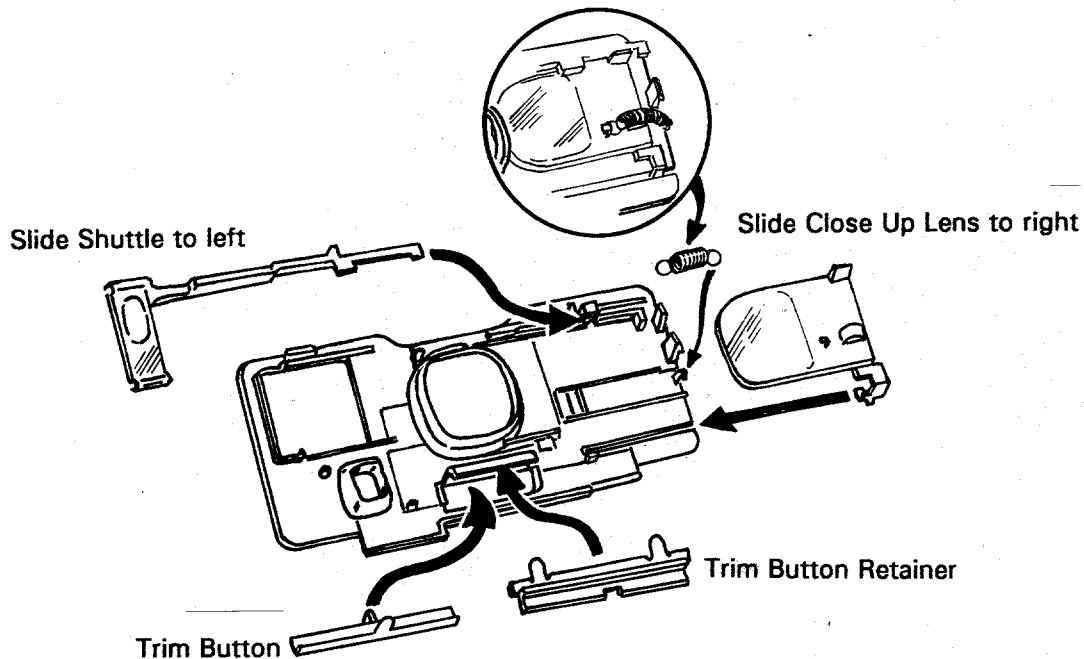

Fig. 10 Disassembling Close Up Lens & Trim Button
10. Disassemble the Close Up Lens, wearing finger cots or lintless gloves. First, remove the Spring with tweezers (Fig. 10).
Remove the Trim Button and Retainer by lifting each end of the Retainer away from molded pin on the back of Panel (Fig. 10).